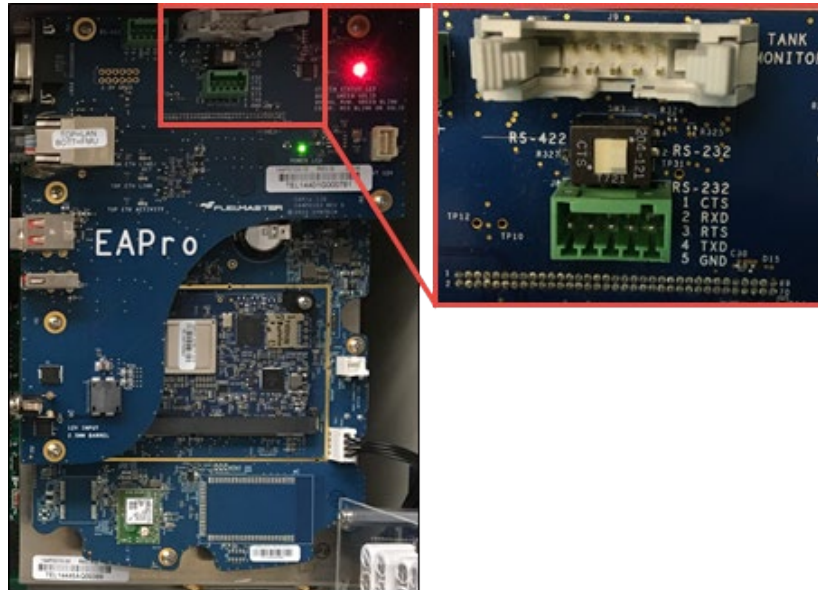

Figure 25 TMU Connector Magnified
1. Verify the switch underneath the TMU connector is slid to the right (Figure 25), selecting RS-232.